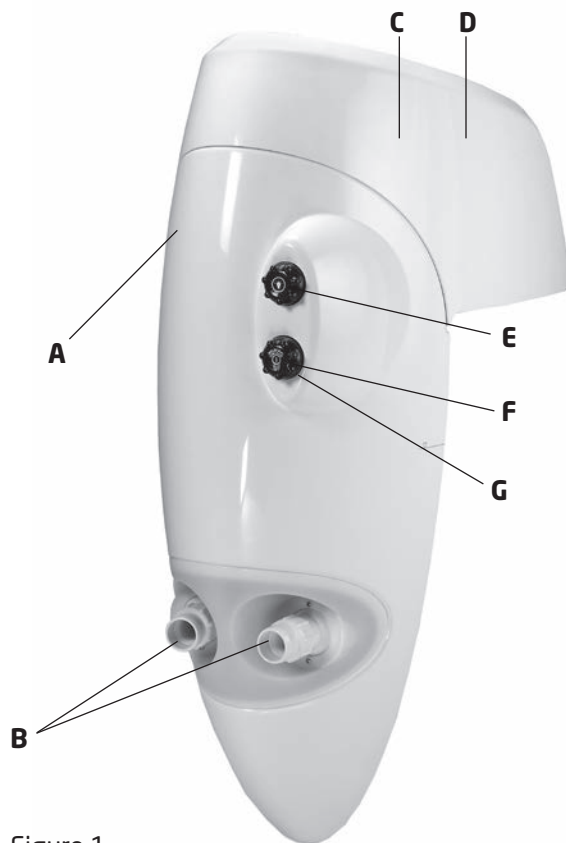

Figure 1
2. Inspect the contents of the carton and verify that all parts are included. All parts are manufactured of corrosion-resistant material and combined in one housing which can be installed in pools of any size and shape. (See Figure 1)